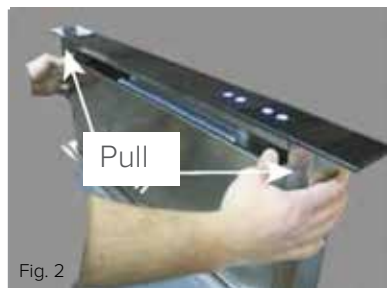

Fig. 2
- By pulling the two top corners of the front panel (Fig. 2) at the same time, it will be released and pivot toward you.